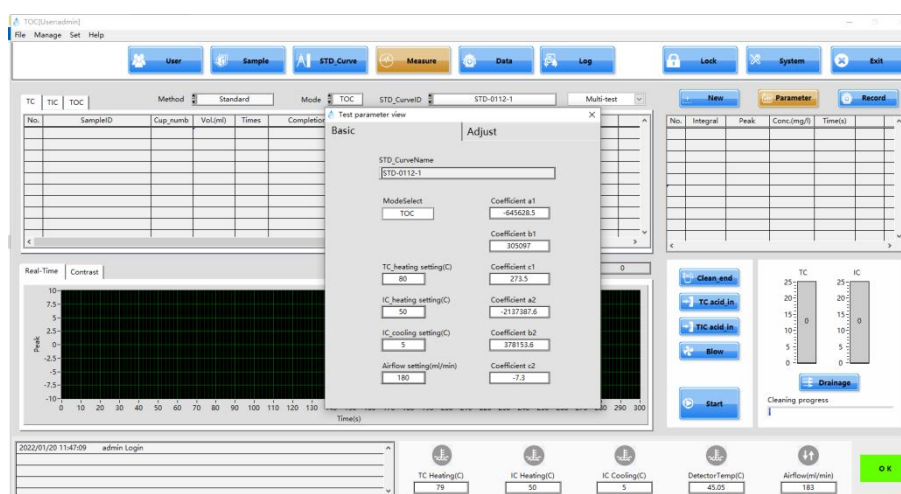

Fig 4.31
Step 3 Click  to enter the sample test interface. The software automatically displays the standard curve which applied in last test and the basic parameters of the curve will be displayed as well. (Fig. 4.31).